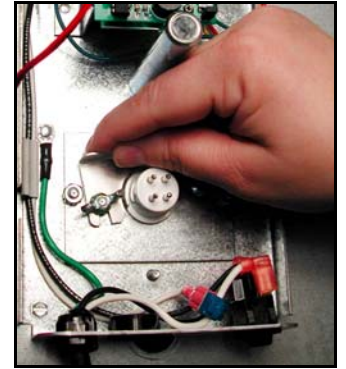

Figure 17
9. Swing the swivel bracket over the end of lamp. Hand-tighten the wing nut on the stud. Be careful no to over tighten the wing nut. The porcelain at the lamp base may crack when over tightened. (See Figure 17)